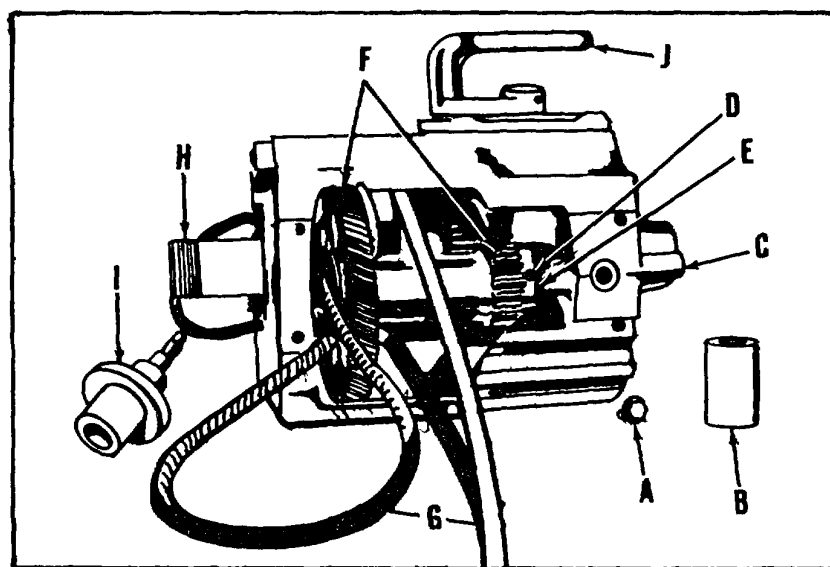

Fig. 39.
14. Remove the headstock from the lathe bed and lay it on its side with the drive selector up, as shown in Fig. 39.
15. Remove bolt (A) Fig. 39, from the bottom of the headstock and remove bearing (B) which supports lower back gear shaft (C).
16. Loosen set screw (D) in collar (E) Fig. 39, slide back gears (F) to the right just far enough to remove belts. Do not remove shaft (C).
17. Remove belts (G) Fig. 39, by slipping them through the outboard spindle bearing hole, past the end of the spindle (H), back through the outboard spindle bearing hole, and down past the back gears (F).
- Fasten shoulder bushing (I) Fig. 39, to headstock.
- Put selector lever (J) Fig. 39, into direct drive position.
- Push shaft (C) into shoulder bushing (I) Fig. 39.
- Replace bearing (B) and bolt (A) Fig. 39. Care must be taken to see that witness mark on bearing (B) is toward the outside and pointing up toward the spindle.
- Check to see if witness mark on shaft (C) Fig. 39 and bearing (B) coincide (with selector lever still in direct drive). If not, remove bolt (A) and bearing (B) and repeat Steps 4 and 5 rotating the shaft until gears mesh in the correct position so that the witness marks on bearing (B) and shaft (C) coincide. The gears referred to are the small gear on shaft (C) and the small gear on the inboard end of the shaft which is rotated by the drive selector. The proper engagement of these gears is necessary for the witness marks to coincide and for the proper backlash setting of the back gears.
- Move back gears (F) to left side and fasten with collar (E) and set screw (D) Fig. 39.